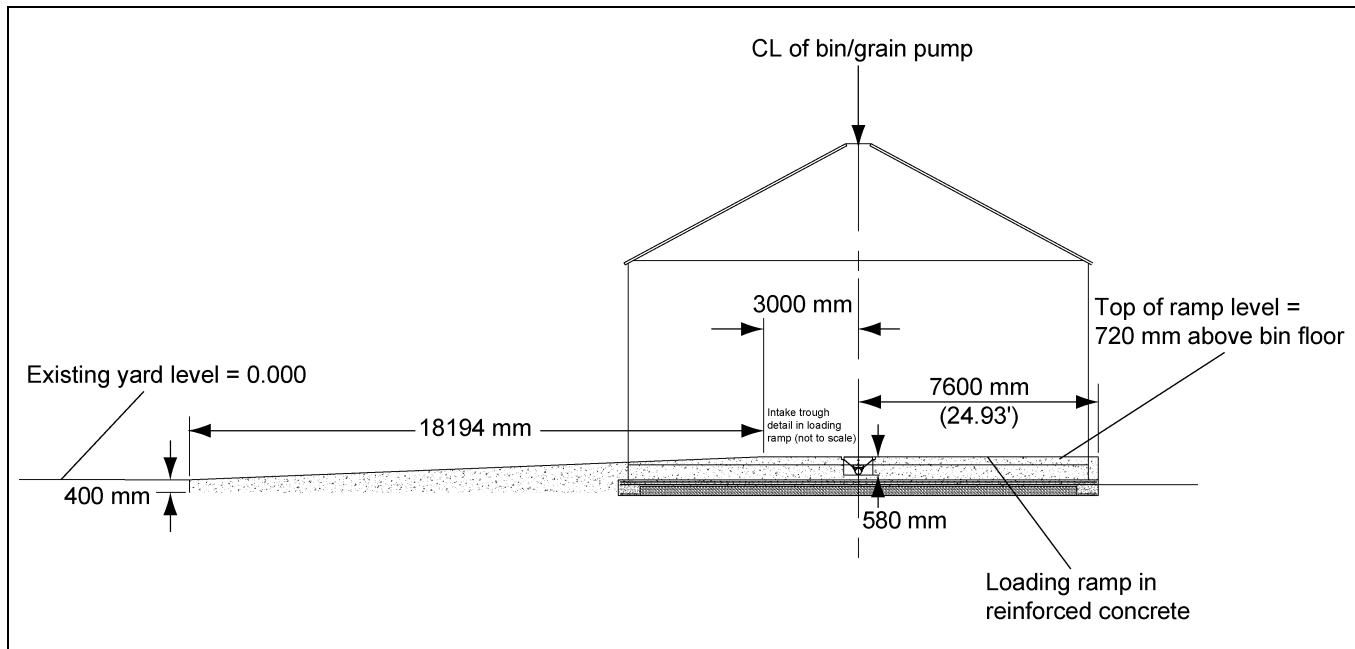

Figure 4E Typical Loading Ramp
6. Below detail in Figure 4E shall be viewed as recommendation only. Site conditions may vary, and structural engineering design should be sought. GSI assumes no liability for results arising from the use of such recommendations.